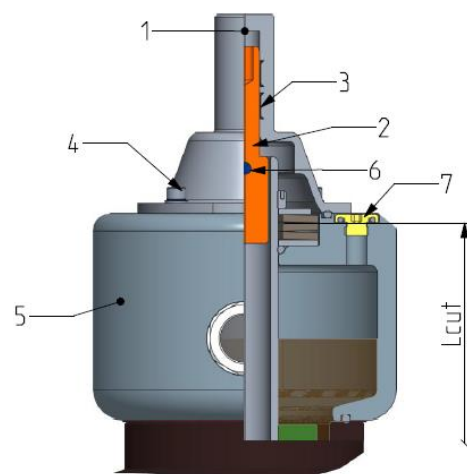
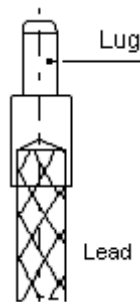

Fig 11
Fig. 12
In this type of execution, the current in the bushing is carried out directly by the lead coming from the transformer's winding, up to the lug placed in the upper part of the bushing (fig. 11 and fig. 12).
Carry out the assembly as follows, referring to fig. 11 and fig. 12:
- Remove the copper lug (2) from the central tube of the bushing
- Make a hole, in the lug (fig. 12), having diameter at least 2 mm higher than that of the connection and max. 2 mm lower than that of the lug.
- Fix a thread to the lug, using the M12 hole (fig. 11)
- Align the hole in the lug with the hole in the central tube and secure the lug in position by reinstalling the locking pin (6)
- Insert the HV terminal (1) on the lug, keeping the terminal well centered on the axis of the bushing. The necessary force is small (about 10 kg) because the multicontact blades, located inside the terminal, press softly on the smooth surface of the lug. The top terminal cap will hold the pin in place. Tighten the screws by a moment of 13 Nm. The gasket placed between the two pieces, assures the transformer oil tightness and for this reason it is necessary to block the terminal before filling the transformer with oil. The gasket which is necessary to assure the tightness between the oil of the bushing and the oil of the transformer is not involved in this assembly. The external line connector to the HV terminal must be of compatible material. Clean well the terminal and apply a specific grease for electrical contact and then assembly the connector to the HV terminal.
Furthermore, lift a little the HV terminal (fig. 11 item 1) in order to allow the air to go out and complete the filling of the transformer and of the lower part of the inner tube of the bushing.